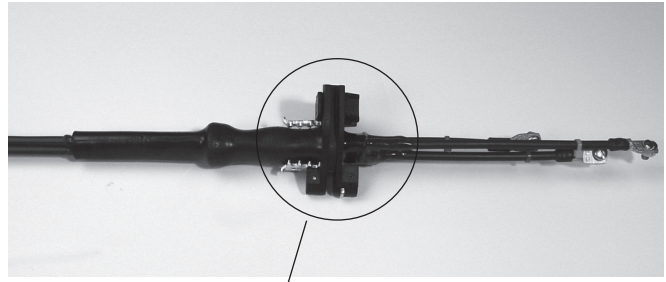

Figure 2
2. Install the cable retention clips of the two-piece cable clamp onto the MEG sleeve 1/2" from the end closest to the eyelets. Install the hose clamp and tighten it around the cable retention clips so that they grip the sleeve securely. (Figures 2 and 3)